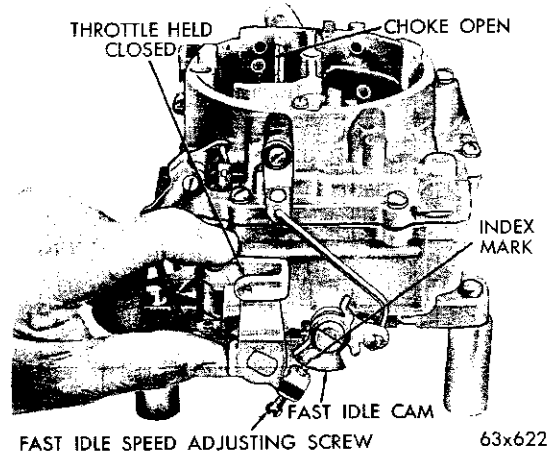

Fig. 78—Fast Idle Cam Indexing
(1) Open the throttle valves to wide open position. Close the choke valve tightly and then close the throttle valves. This will position the fast idle cam to fast idle. The index mark on the cam should split the center of the fast idle adjusting screw, as shown in Figure 78.
(2) If an adjustment is necessary, bend the fast idle connector rod at the angle, using Tool T109-213, until the index mark on the cam indexes the fast idle adjusting screw.